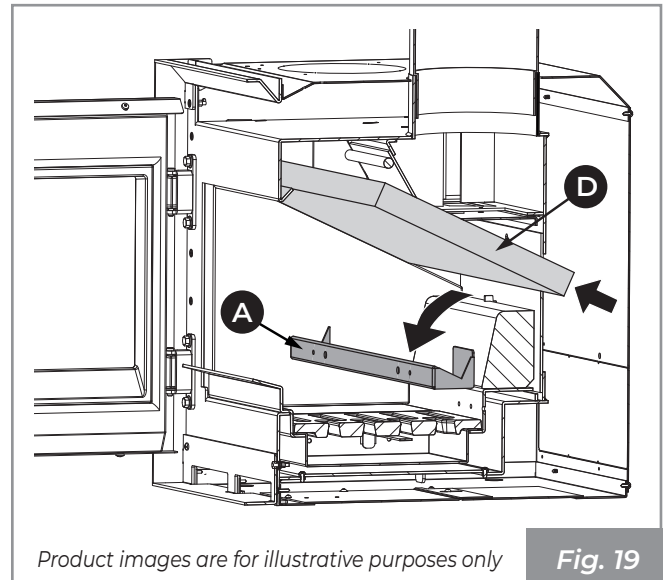

Fig. 19
#### 1. Fig. 19 only for ECOPALEX GTM-70
Lift the deflector (D) and remove the post-combustion plate (A) (Fig. 19).